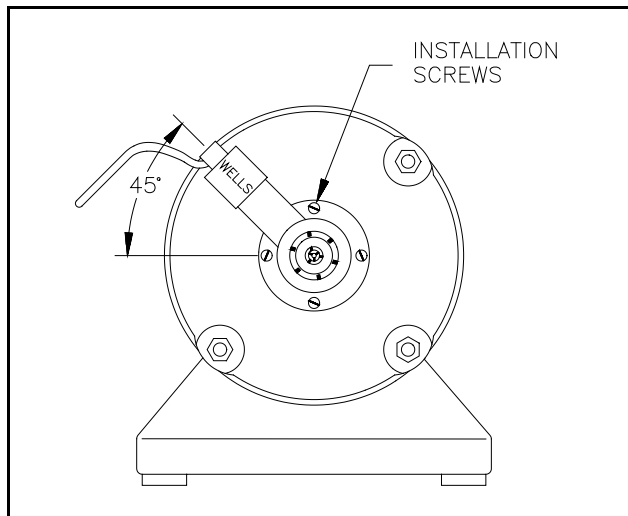

Figure 11. End view
6.1 Confirm that the handle is in the shipping position. Fasten the Quick Chuck to the adapter using the four installation screws. See Figure 11.